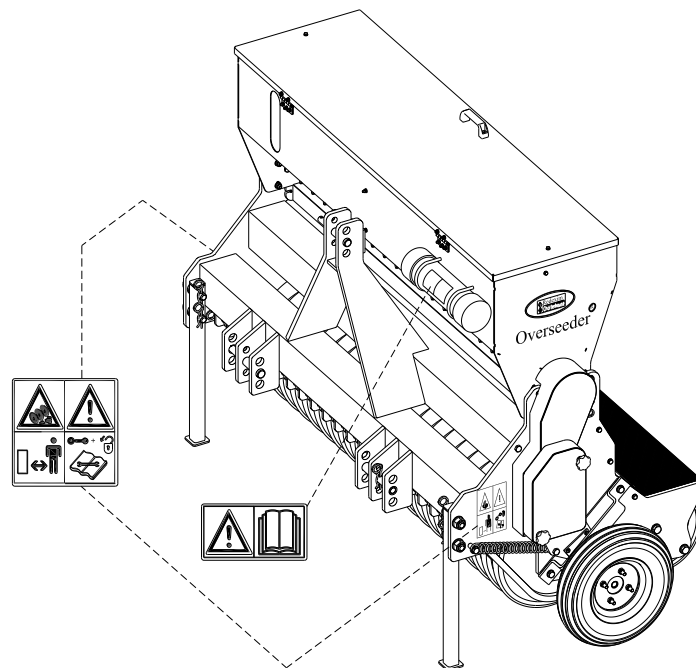

Fig. 5
- (7) Location of safety stickers (Fig. 5).